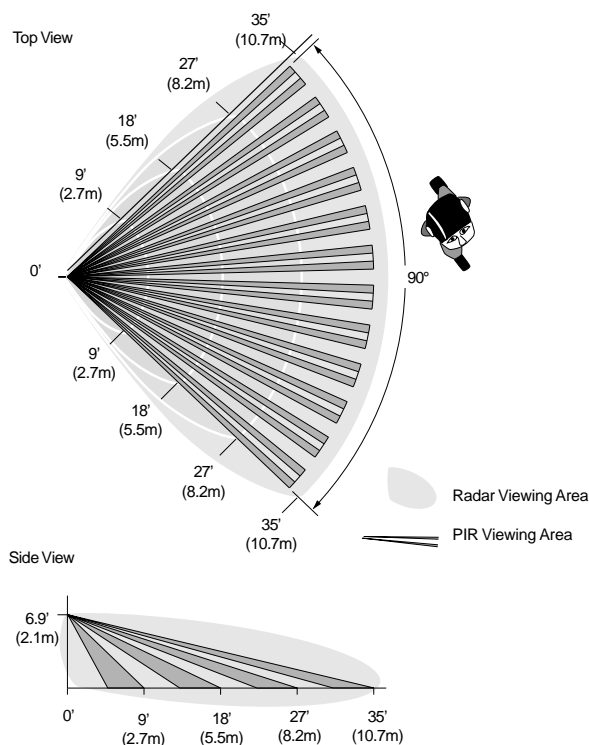

Figure 1. RCR and PIR Coverage Patterns
- Mount the detector so the expected movement of an intruder is across the detection pattern. See Figure 1.